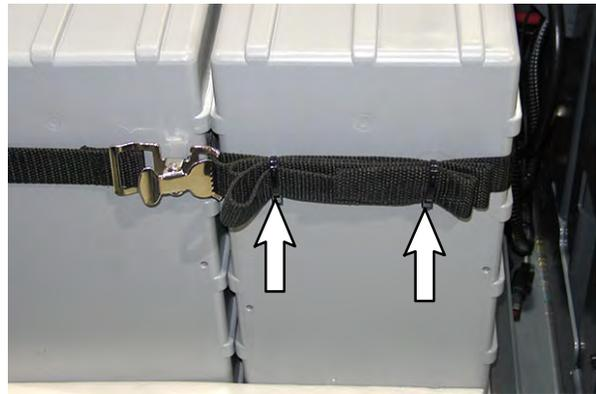

FIG. 49
48. Neatly bundle excess strap (9) length and use two cable ties to secure the bundled portion of the strap. (Fig. 49)